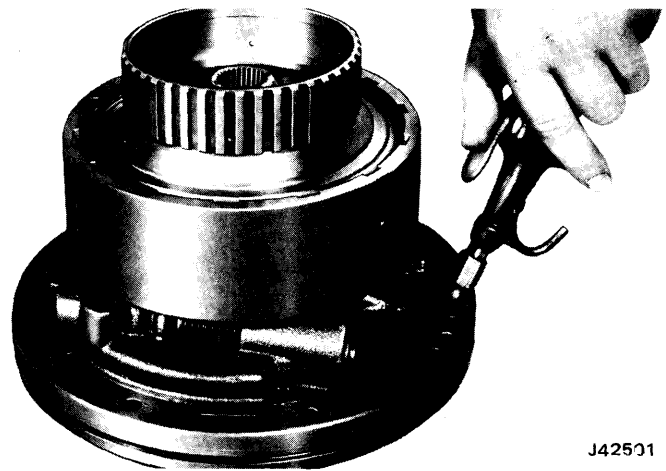

Fig. 7-78 Removing Intermediate Roller Clutch Snap Ring
(1) Remove snap ring attaching intermediate clutch retainer to direct clutch housing (fig. 7-78).